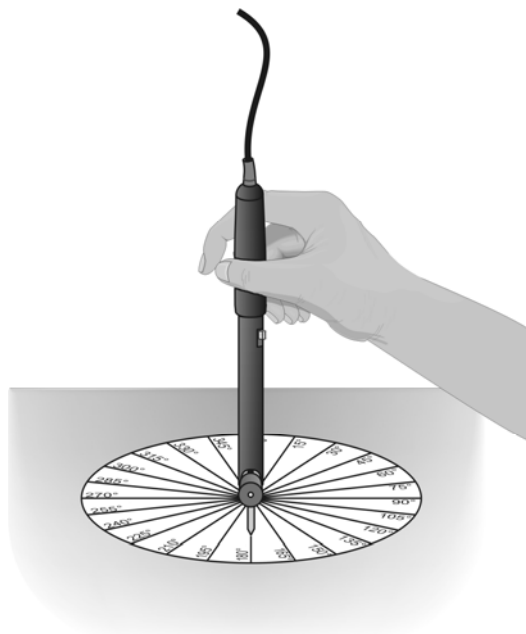

Figure 1
1. Tape the pointer on top of the white dot of the Magnetic Field Sensor and bend it so that it is perpendicular to the sensor as shown in Figure 1.